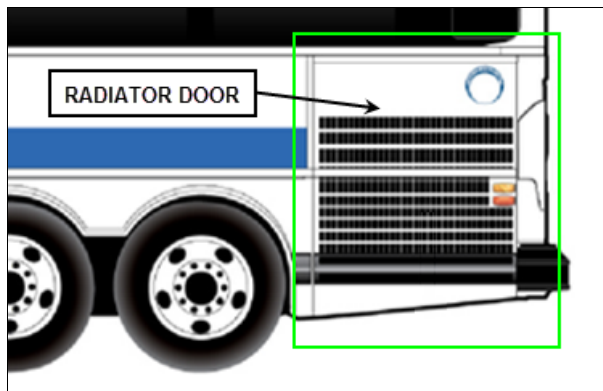

FIG.1 VEHICLE RADIATOR DOOR
1. Fully open the vehicle radiator door (rear, road side of vehicle Fig.1).